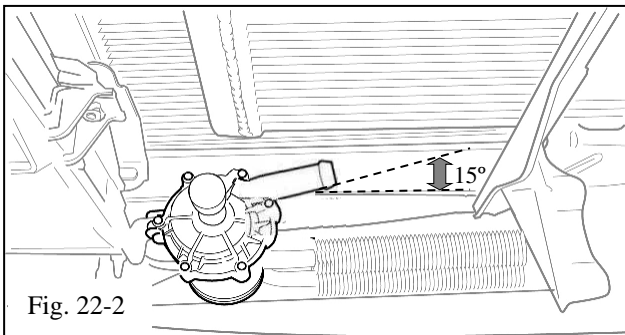

Fig. 22-2
- (1) Start with the passenger's side slot and then lower the driver's side slot.
- (2) The mount goes back against the lower radiator cross beam behind the brace. When in place, it will look as shown in Fig. 22-2.